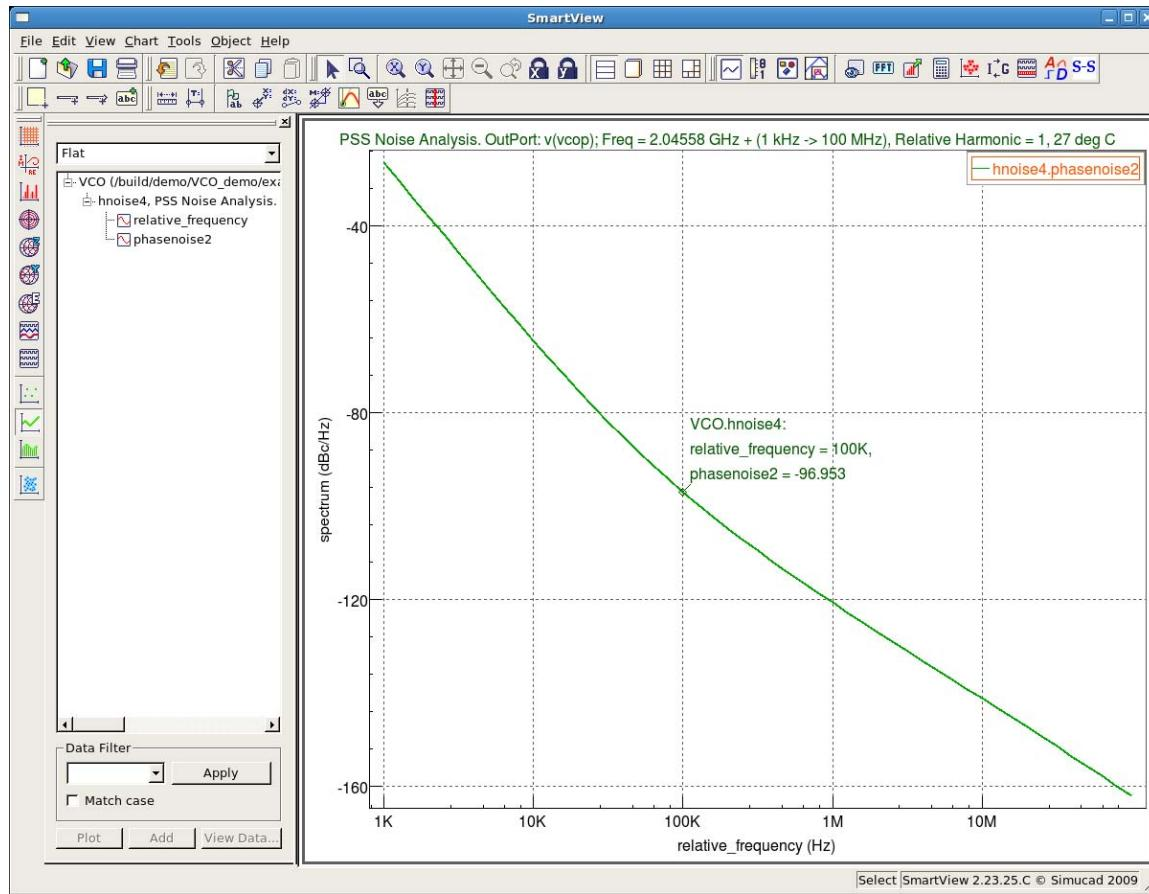

Figure 9: Phase Noise Plot for Tuning Voltage of 1.5 V
3.2: After the simulation will finish, select vector “PhaseNoise” from “hnoise4” plot and click **Plot**. The oscillation frequency of 2.04558 GHz is shown in the header. The phase noise at 100kHz offset frequency is -96.953 dBc/Hz (Figure 9).